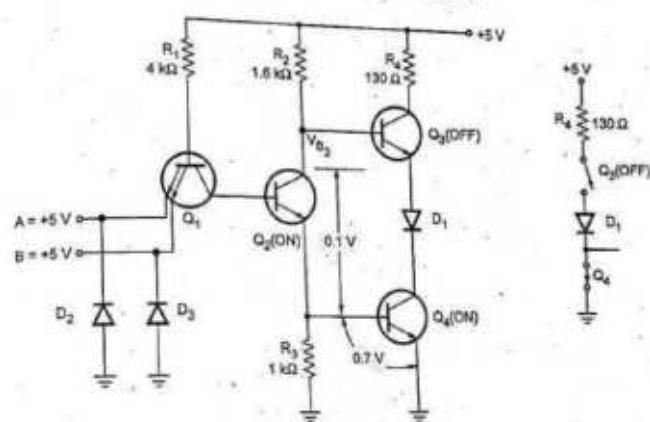

Fig. 3.3.5 Static analysis when output is LOW
- The equivalent switches in the totem-pole under these conditions are shown in Fig. 3.3.5. The output current,  $I_L$  flows through  $R_4(130\ \Omega)$  and diode  $D_1$ . Therefore, the HIGH output voltage is given as,